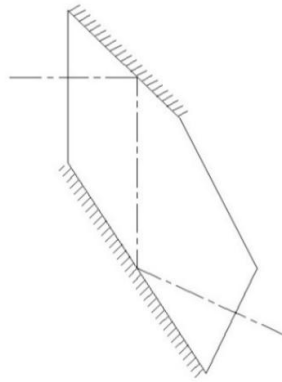

Figure 1: Diagram of the structure and working principle of the surveillance camera.
The surveillance equipment in the driver's cab and on the turret is a surveillance camera that consists of with a prism set or prism set. where the light beam passes through the surface of the reflector. The light at the top of the prism then refracts the beam twice and is sent out as a beam of prism. The advantage of a surveillance camera is that it increases the size of objects and protects the user. Figure 1 is a diagram of the main structure of a surveillance camera.
The driver's seat consists of a backrest, a pull-lever, a cushion, a position selector, High rise/lower rocker, transverse axle receives the torque of the front parallel linkage, parallel linkage Back and base (Figure 1) The driver's seat position can be adjusted up/down and forward/backward.
The driver's seat (3) can be adjusted up/down and moved forward/backward by using the raised/lower handle (5) and position selection lever (4).) in order to respond to comfort The needs of each driver are different. The height of the driver's seat is adjustable from the lowest position. to the highest position of 360 mm. by using the adjusting lever (5) as shown in Figure 1. The adjusting lever (5) is on the left side of the seat (3) which Must be used on the left hand side, as shown in Figure 2. The height adjustment rocker (5) is a type of lever rocker structure with a hole at the end of the slit. By the shaft pin (15), the height adjustment rocker (5) rotates around the shaft pin (15) within the seat limit (10). The rocker can move only within the rectangular frame specified by the seat limiter. (11) and will come into contact with the shaft pin (13) to drive the shaft pin forward (13) and the bracket (12) respectively before reaching the end point on the side. Left reserved limited seats Because of the connection of threaded between the mounting frame (12) and the gear plate. The gear plate (9) is driven to release the gear plate from the support base (17). The cross shaft receives the linkage torque. Front in sequence. and the leaf springs can parallel linkage (7) and parallel linkage piece (10) are placed be rotated. The rear (6) has 13 leaf springs at one end to ensure that the driver can easily adjust it. Be sure to firmly insert the end of the holder. The cross shaft torques the front parallel linkage to the left side and the rear parallel linkage is fitted to the end. Right The height of the driver's seat can be adjusted using the driver's weight. After adjusting, adjust the seat height adjustment lever (2) to return it to its original state under Operation of the return leaf springs (14) and the pulling leaf springs (16).